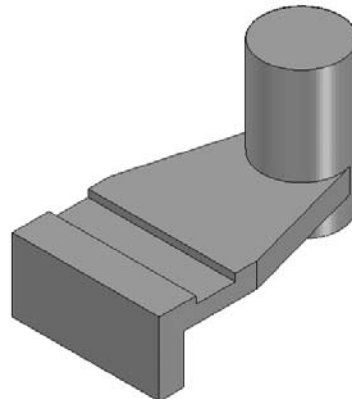

Figure 5-54 Model after creating the third feature
- Define a reference plane at an offset of 10 units from the bottom face of the second feature and use it to create the third feature, refer to Figure 5-54.
6. Choose **Finish** and then choose **Cancel** to create the feature and exit the **Extrude** tool. The model after creating the third protrusion feature is shown in Figure 5-54.